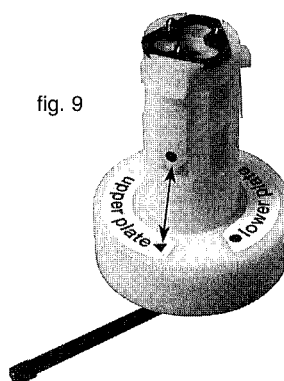

fig. 9
Change the tool to „upper clamping element“ and position the clamping element exactly (Fig 9)
Compress the two snap hooks by means of a pair of tweezers (Fig 9) and remove the roller assy (A) from the plate (B)